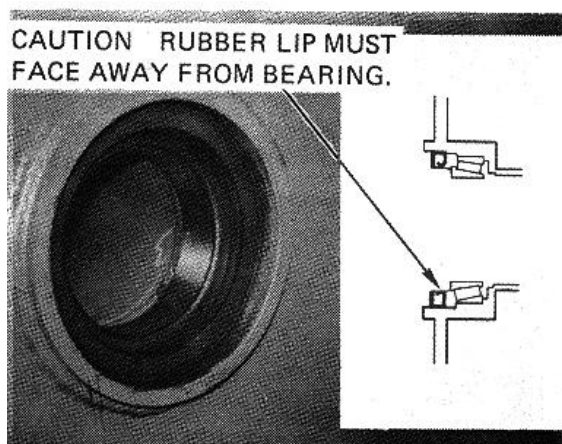

FIGURE 9-103.
b. Install inside bearing cones and grease seals into inside hubs on both drums (see figure 9-103).